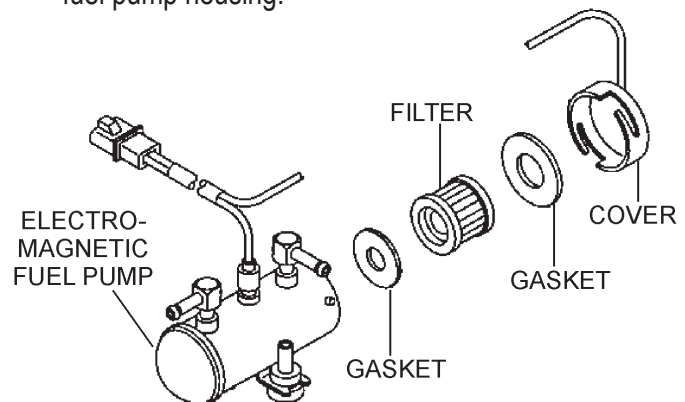

Figure 52. Electromagnetic Fuel Pump
The filter inside the **electromagnetic fuel pump** (Figure 52) is either a paper type or steel mesh type depending on the fuel pump type. Clean or replace the fuel pump filter as follows:
4. Remove the **filter** and **gaskets** (Figure 52) from the fuel pump housing.